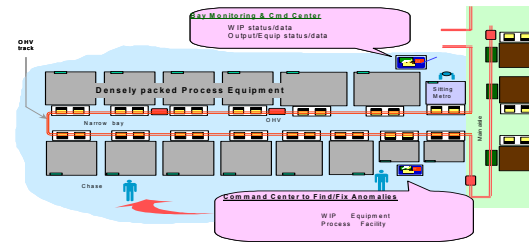

Figure 7. “Lights Out” 300mm Automation Infrastructure.
Intel’s first 300mm fab features the world’s first fully automated system for handling wafers (4). Due to ergonomic concerns with 300mm wafers as well as the opportunity to reduce manufacturing cost, Intel’s 300mm factories feature integrated point-to-point delivery capability and Overhead Hoist Vehicles (OHV’s) that enable “lights out” operations (Fig. 7).